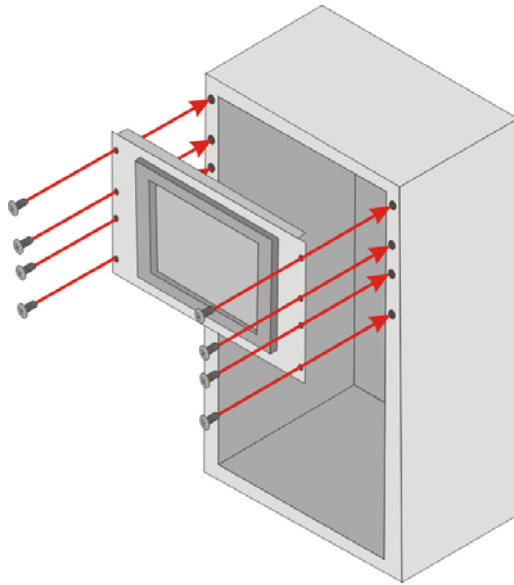

Figure 2-17: Install into a Rack/Cabinet
- Step 4:** Slide the panel PC with the attached rack/cabinet bracket into a rack or cabinet (Figure 2-17).
Step 5: Once the panel PC with the attached rack/cabinet bracket has been properly inserted into the rack or cabinet, secure the front of the rack/cabinet bracket to the front of the rack or cabinet (**Figure 2-17**).